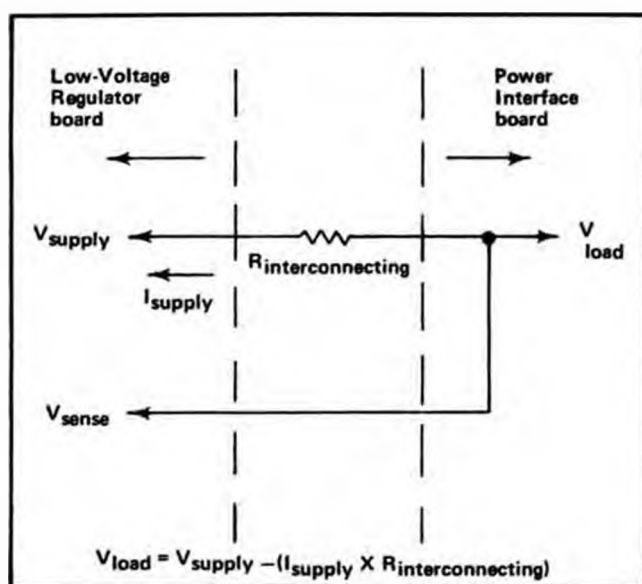

Fig. 3-36. Schematic illustrating voltage drop between power-supply output and load due to resistance of interconnecting wire.
through divider R985-R986-R987. R986 in this divider is adjustable to set the output level of this supply. Notice that the feedback voltage to this divider is obtained from a line labeled —50 V Sense. Fig. 3-36 illustrates the reason for this configuration. The inherent resistance of the interconnecting wire between the output of the —50-Volt Supply and the load produces a voltage drop which is equal to the output current multiplied by the resistance of the interconnecting wire. Even though the resistance of the wire is small, it results in a substantial voltage drop due to the high output current of this supply. Therefore, if the feedback voltage were obtained ahead of this drop, the voltage at the load might not maintain close regulation. However, the —50 V Sense configuration overcomes this problem since it obtains the feedback voltage from a point as close as practical to the load. Since the current in the —50 V Sense line is small and constant, the feedback voltage is an accurate sample of the voltage applied to the load.
The Format Generator stage provides the output signals to the vertical and horizontal deflection systems of the instrument to produce the character display. The binary Channel Address Code from the Channel Counter stage is connected to this stage so that the display from each channel is positioned to the area of the CRT which is associated with the plug-in and channel originating the word (see Fig. 3-36). The positioning current or decimal point location current generated by the Decimal Point Logic and Character Position Counter stage is added to the horizontal (X) signal at the input to the Format Generator stage to provide horizontal positioning of the characters within each word. The X- and Y-output signals are connected to the Horizontal Amplifier and Vertical Amplifier through the Horizontal Output and Vertical Output stages respectively.